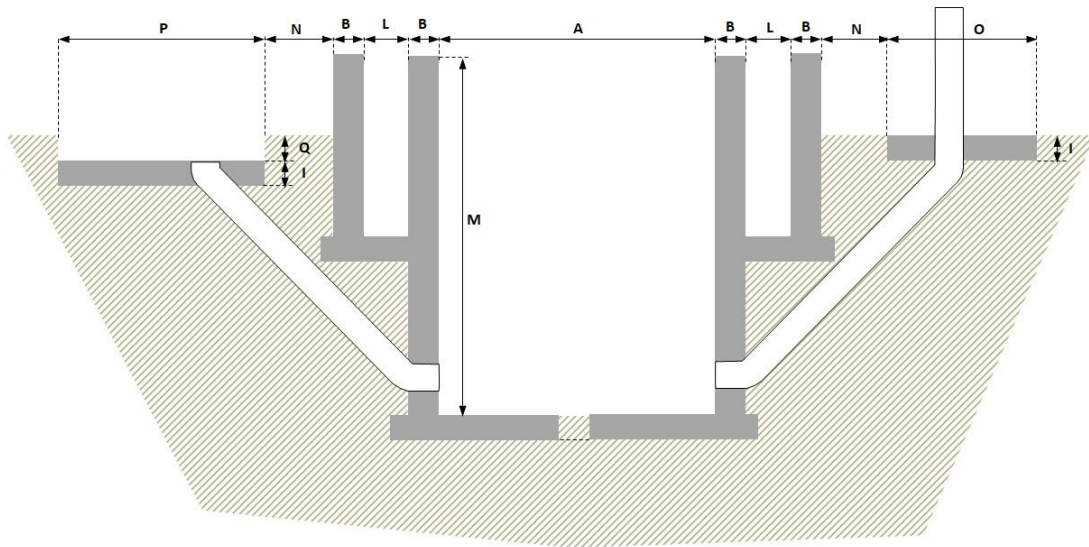

Figure 12 Masonry (4)
4. The next phase is completing the remainder of the inner wall, upto the final level (see Figure 12). Proper diameter and roundness are critical as the gas holder should be able to move freely over this part of the wall. Once it is strong enough, the inner wall can be plastered, on the inside and on the outside. Also, the space around the outer wall can be backfilled, although the casing for the guide pole concrete (see Figure 15) should be placed. The foundations for the inlet and outlet can then be dug and, after applying a layer of plastic, poured. Note that the outlet pipe should be at the same level as the foundation, with an enlarged end extending upwards.